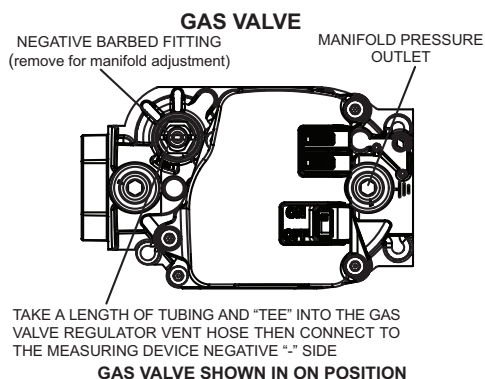

FIGURE 1
- 2 - Remove the heating compartment access panel. Turn the automatic gas valve switch to the OFF position. See figure 1.
- 6 - Move gas valve switch to OFF. See figure 1.
- 7 - Wait five (5) minutes for any gas to clear out. If you then smell gas, STOP! Immediately call your gas supplier from a neighbor's phone. Follow the gas supplier's instructions. If you do not smell gas, go to the next step.
- 8 - Move gas valve switch to ON. See figure 1.
When testing supply gas pressure, use the 1/8" N.P.T. supply line tap located on the gas valve to facilitate test gauge connection. See figure 1. Check gas line pressure with unit firing at maximum rate. Low pressure may result in erratic operation or underfire. High pressure can result in permanent damage to gas valve or overfire.
When testing manifold gas pressure, use the 1/8" N.P.T. plugged tap (manifold pressure outlet) located on the gas valve to facilitate test measuring device. See figure 1.
- 7 - Remove the negative barbed fitting as shown in figure 1 and using a screw driver make adjustment to increase or decrease manifold pressure.